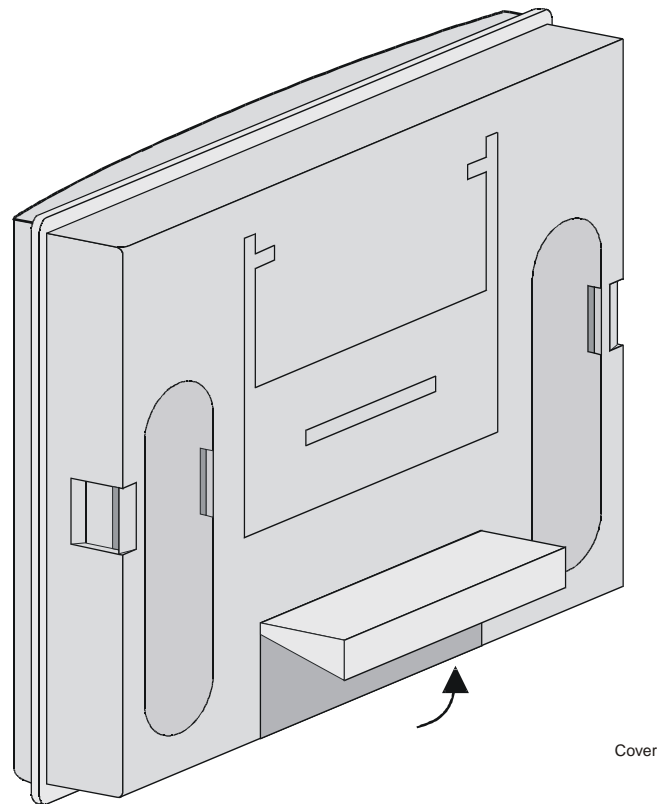

Figure 3-10: Connector Location
Note: If the panel thickness is greater than 5 mm (0.19 in), remove the flap on the back of the display covering the terminals (see Figure 3-10) prior to mounting the display.
1. Lift the flap covering the connectors on the back of the DX LCD Display as Figure 3-10).